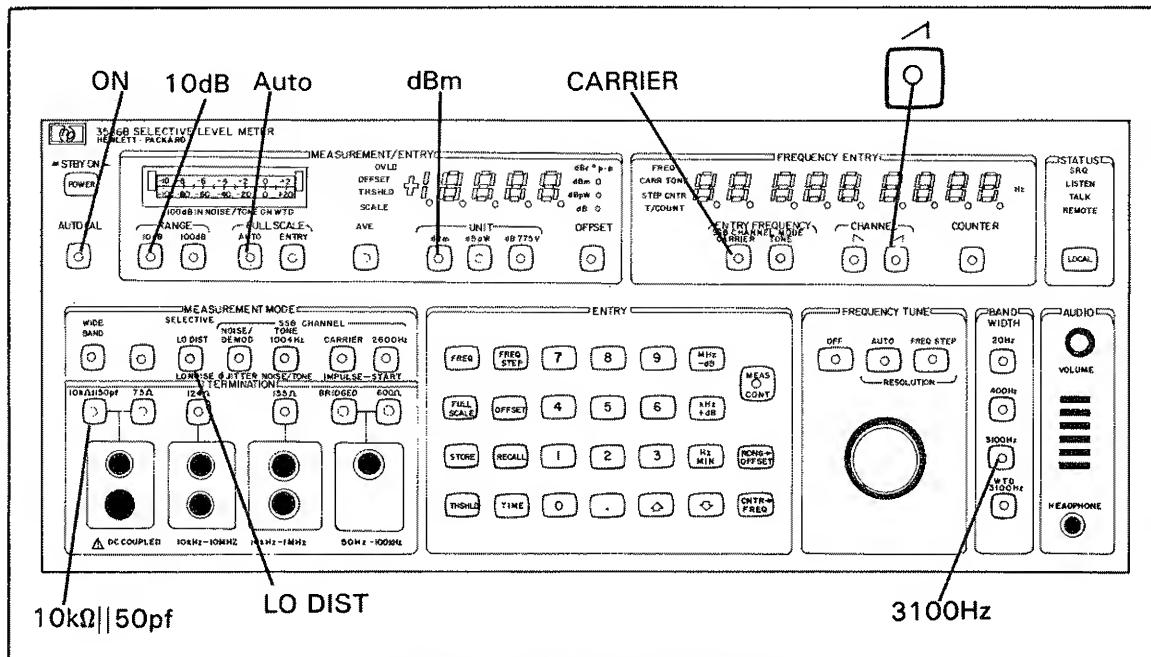

Figure 2-5. Turn-On Conditions.
**2-28. Turn On Conditions.** The -hp-3586A/B/C can now be turned on. All annunciators and displays will light and remain lit for approximately three seconds after turn on. At that time, the Frequency/Entry display will change to 1 000 000 Hz and all annunciators, except those indicated in Figure 2-5, will go out. Very soon after these changes, level readings will begin to appear in the Amplitude/Entry display. Check to be sure the fan, located on the rear panel, is operating. If the turn on sequence is incorrect, if the fan is not operating or if the initial operating conditions are different from those illustrated in Figure 2-5, turn off the instrument and contact the nearest -hp- Sales and Service Office or a qualified service technician. A list of -hp- Sales and Service Offices is given at the back of this manual.